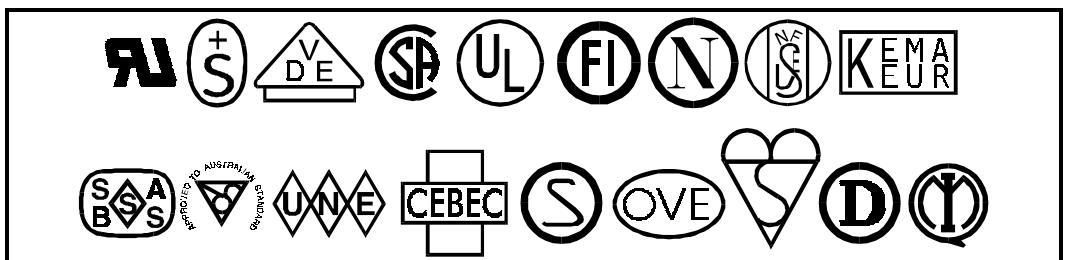

Figure A.2
4. The plug cap should bear the certification mark of a known international safety organization (See Figure A.2).